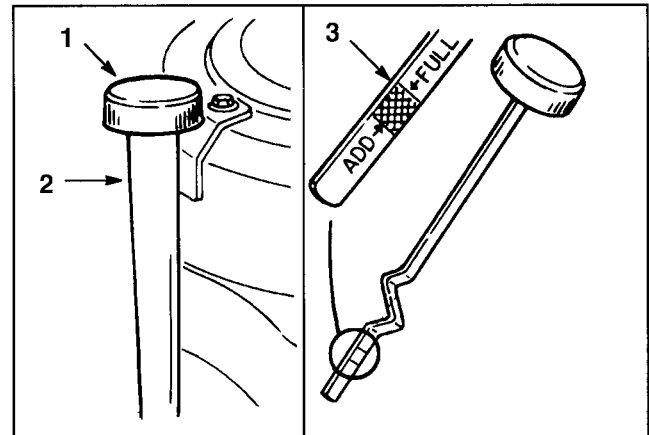

Figure 14
3. Un-thread and remove the oil fill cap/dipstick; wipe oil off. Reinstall the dipstick into the tube and rest the oil fill cap on the tube. Do not thread the cap onto the tube (Fig. 14).
4. Remove dipstick and check oil level. The level should be between the FULL and ADD marks. If low, add oil of proper type up to the FULL mark. Reinstall the oil fill cap/dipstick and thread tight (Fig. 14).
7. Remove dipstick and check oil level. The level should be between the FULL and ADD marks. If low, add oil of proper type up to the FULL mark. Reinstall the oil fill cap/dipstick and thread tight (Fig. 14).